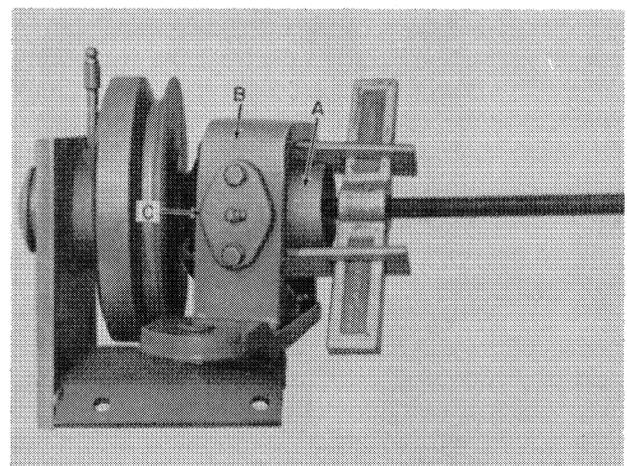

FIGURE 4
1. Remove the cap, cotter pin, and hex nut from the wobble hub, A, Figure 4. Install a bearing puller and remove complete wobble hub assembly from wobble shaft as a unit.
NOTE: If bearing puller being used will not fit inside yoke, B, Figure 4, puller can be placed on trunnion bearing caps at C, after grease fittings are removed.
4. Install the wobble yoke assembly, A, Figure 4, on the wobble shaft. Install washer and hex nut and tighten nut while rotating the shaft and sheave. The hex nut should be adjusted until the shaft and sheave are difficult to rotate. Then back off the nut one flat. Tap the sheave with a hammer and check for end-play. There should be no end-play in the assembly before the cotter pin and cap are installed.